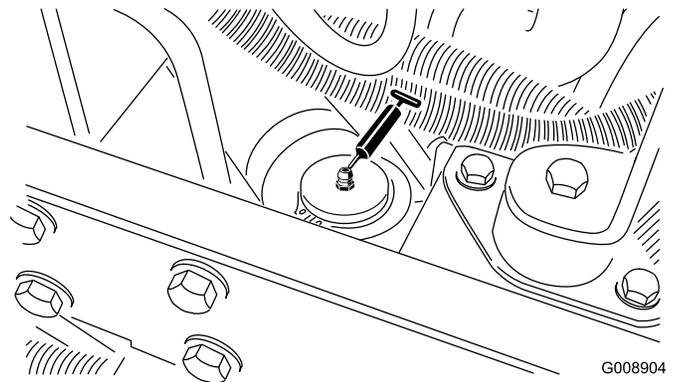

Figure 39
- Steering cylinder (Figure 39).